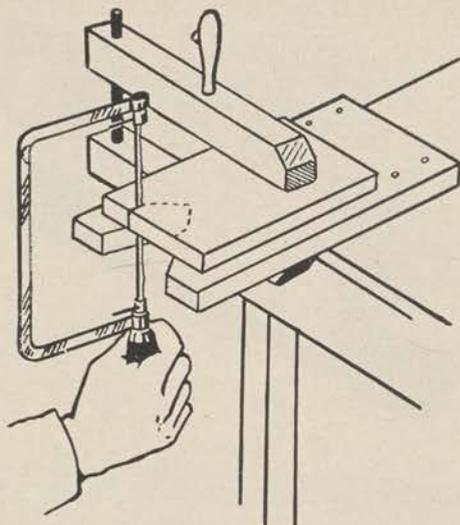
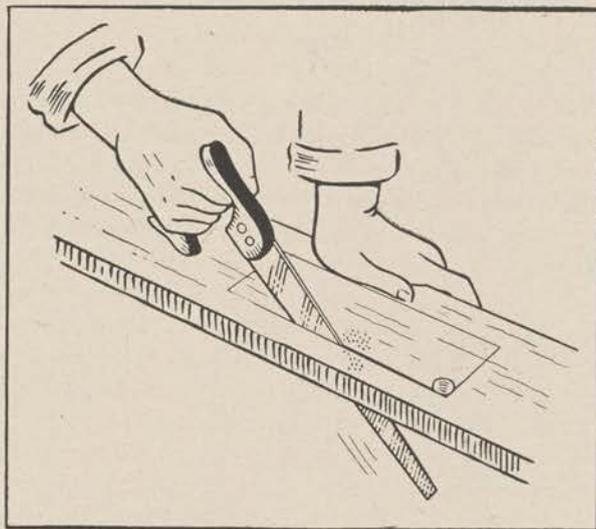

Figure 71.
Figure 72.
*c.* Other types of saws which will be found useful are the coping saw for cutting curves in thin wood (fig. 71) and the compass saw for curves in thick wood (fig. 72). They are also used for either straight or curved inside cuts in which case a hole is first bored in the work to accommodate the blade. In cut-